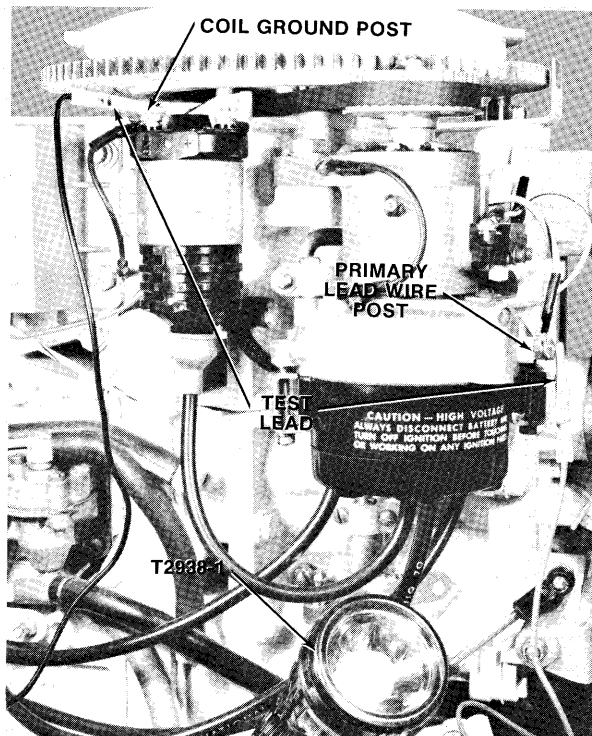

Figure 9—Connecting Leads of Test Light
- K. Connect leads of test light (Special Tool T2938-1) to distributor primary lead wire post and to ground (ground post on coil) as shown in figure 9.